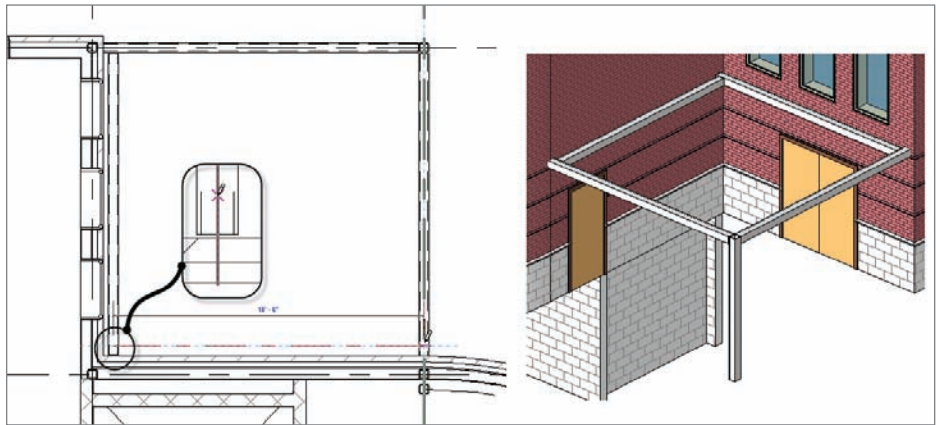

FIGURE 8.38 Completing the framing for the canopy
12. Draw another beam from the left to the right, 6" off the finish face of the wall, as shown in Figure 8.38.